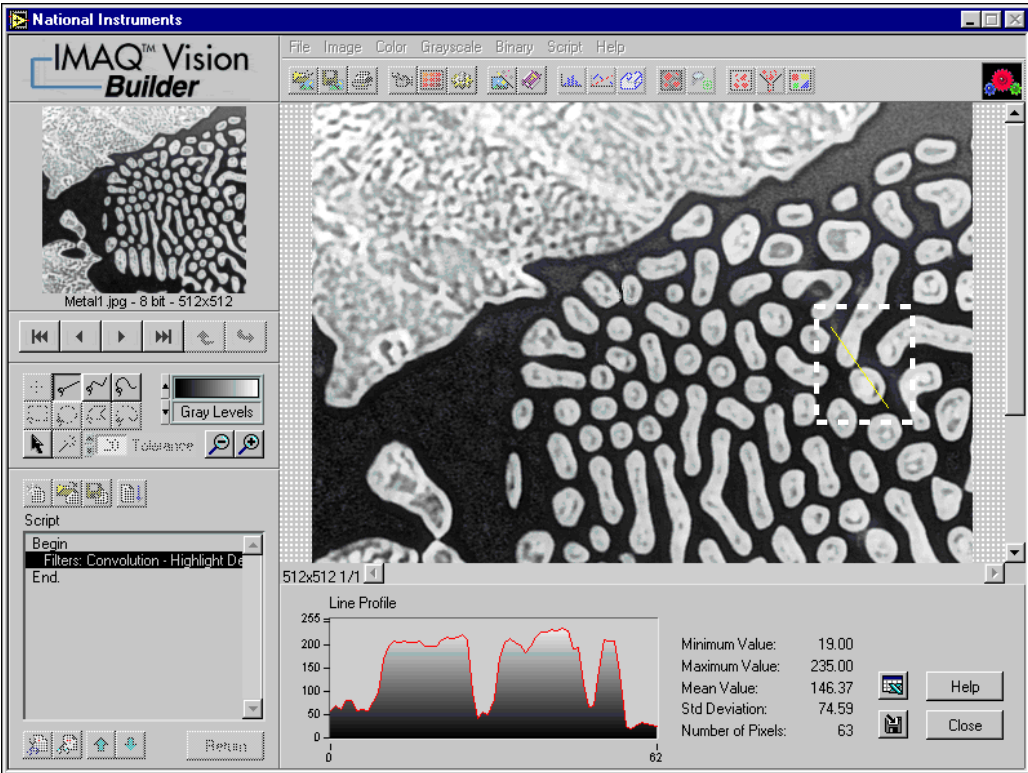

Figure 3-2. Using a Line Profile to Examine Particle Edges
2. Click and drag to draw a short segment across a particle to examine the line profile of a particle and its border, as shown in Figure 3-2. The line profile indicates more defined edges.